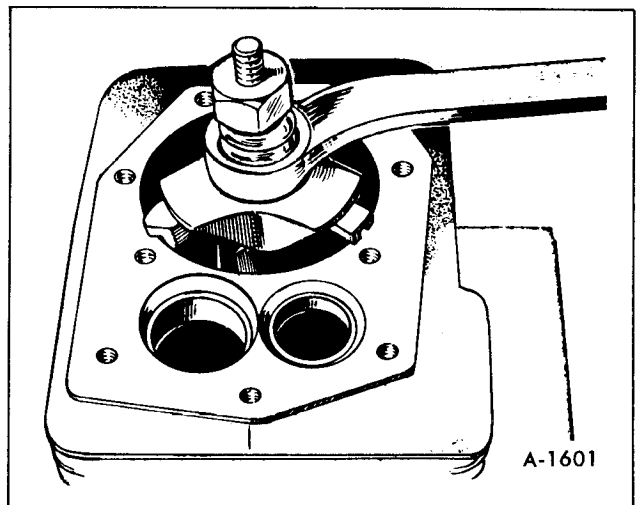

Figure 12—Removing Ridge From The Cylinder
3. Remove the ridge from the top of each cylinder with a ridge reamer before attempting piston removal (figure 12). Forcing the piston from the cylinder before reaming may cause damage to the piston lands.